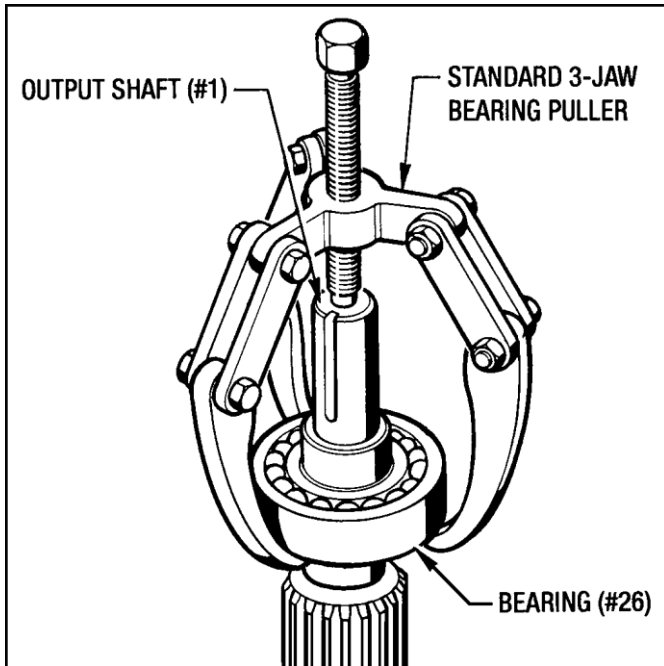

Figure 7.5 - Removing Bearing (#26)
- Use a Bearing Puller as shown in Figure 7.5 to remove Bearing (#26) from the Output Shaft (#1).